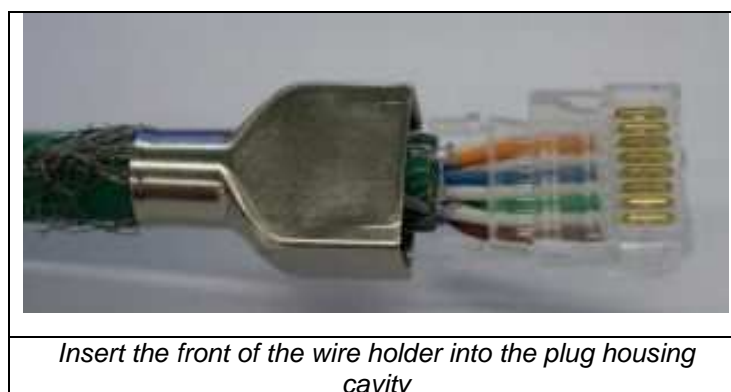

Figure 9
- Replaced and updated Figure 9, 10 and 13.
6. Insert the front of the wire holder and the ends of the conductors into the cavity of the plug housing. See Figure 9.